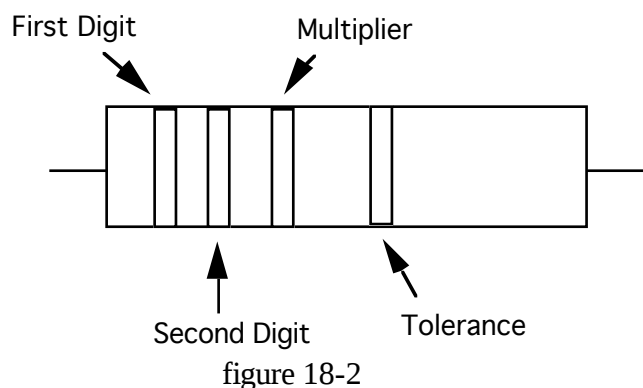

figure 18-2
6. Measure the resistance of each resistor using the ohmmeter function of the DMM. Do this by placing the input wires in the correct holes on the DMM and turning the dial to the ohms (Ω) position. The DMM provides a potential difference between the leads and measures the amount of current through the resistance. Be sure and write down color code values including tolerances. (see figure 18-2).